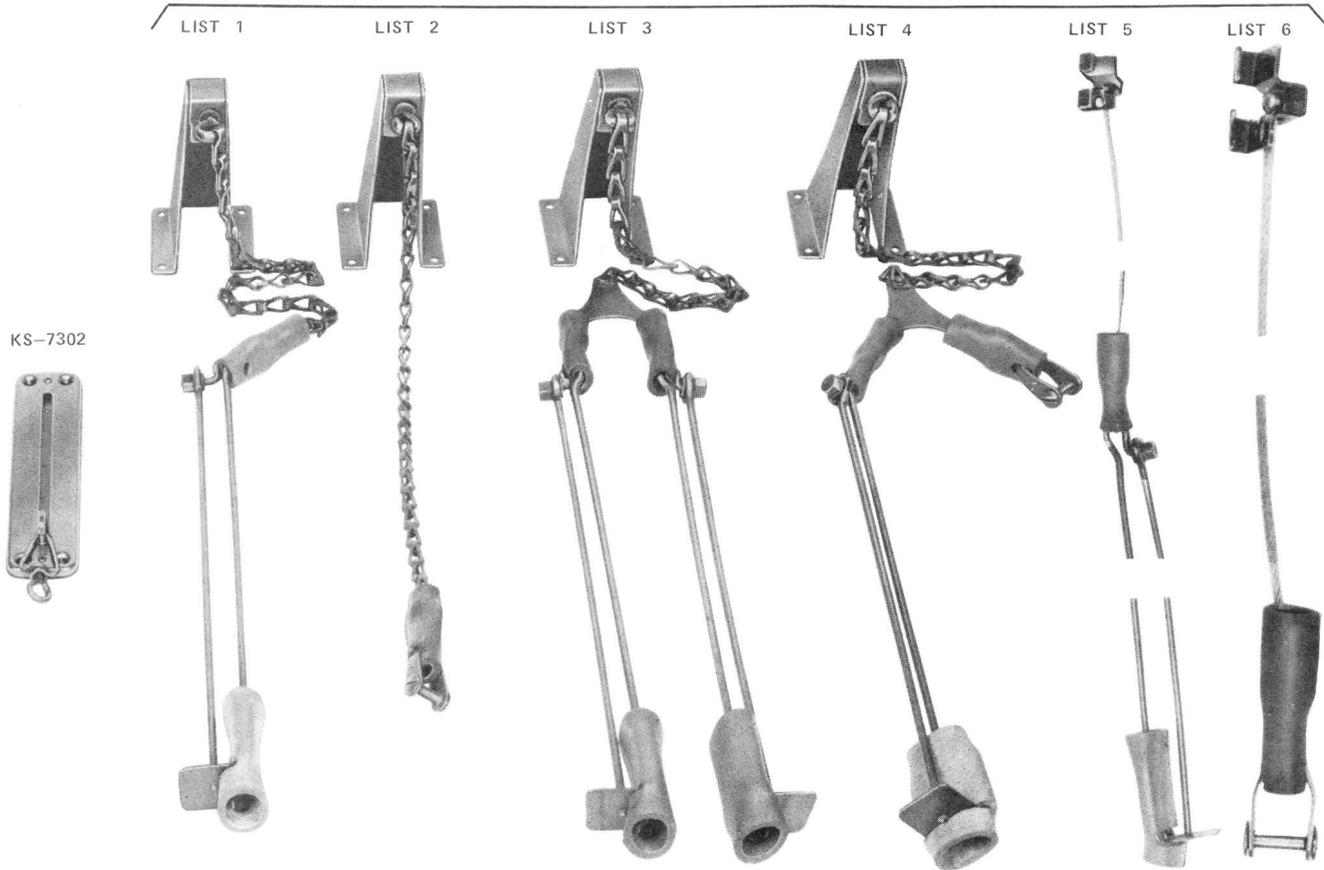

Fig. 1—Directory Hangers
- Add KS-13350, Lists 5 and 6 directory hangers, Fig. 1
**2.01** Figure 1 shows the KS-7302 and the KS-13350 type directory hangers.